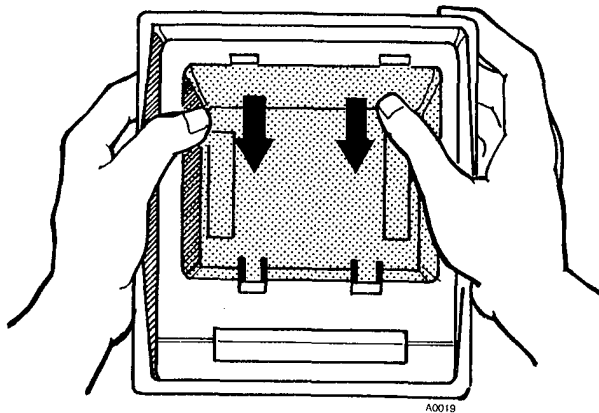

Figure 4 REMOVING WALL MOUNTING BASE FROM TELEPHONE, EK-616
- Push top of wall mounting down to remove it from telephone ( Figure 4 ).